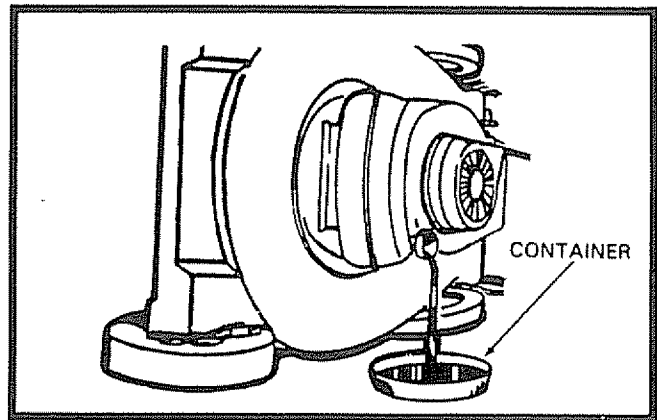

FIG. 6
- Tip mower on its side as shown in Fig. 6 and drain oil into suitable container. Rock mower back and forth to remove any oil trapped inside of engine.